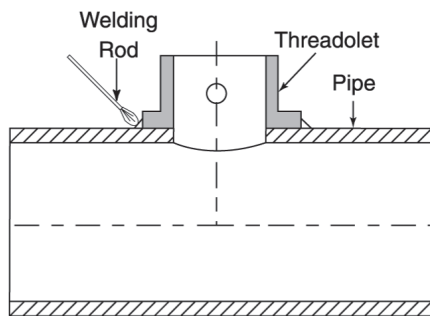

Figure 4. Thread-o-let hardware installation
2. Center the thread-o-let over hole (see Figure 4).